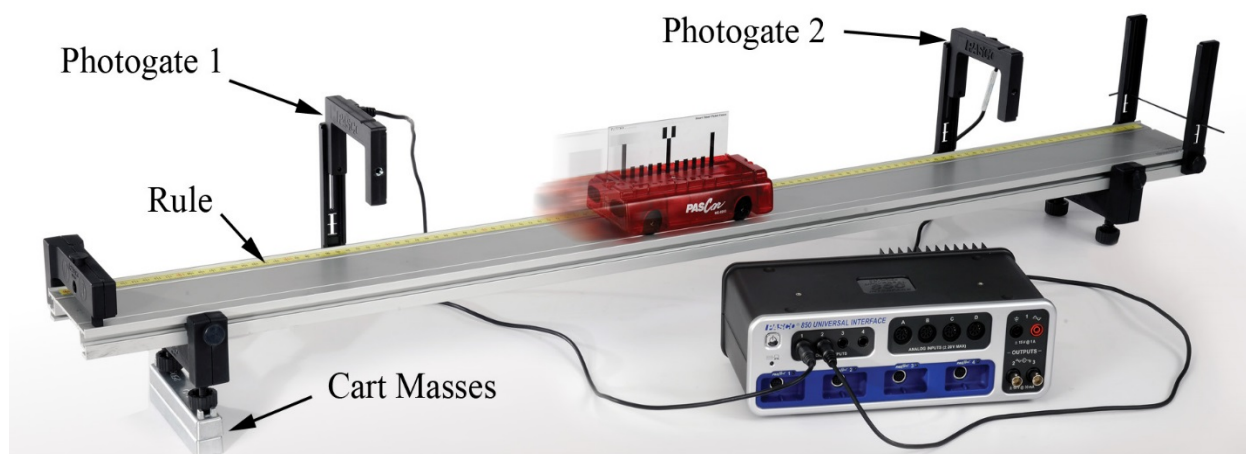

Figure 1: Inclined Dynamics Track
1. Install the two Photogate Brackets on the track on the side with the rule as shown in Figure 1. Place the Cart Masses under the track feet on one side to incline the track.